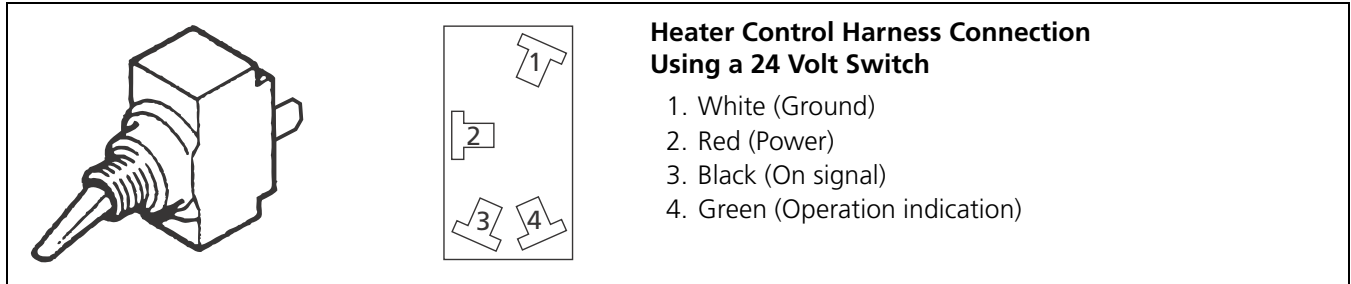

Figure 29: Toggle switch
- Switch, see circuit diagrams in Figures 29 and 33.